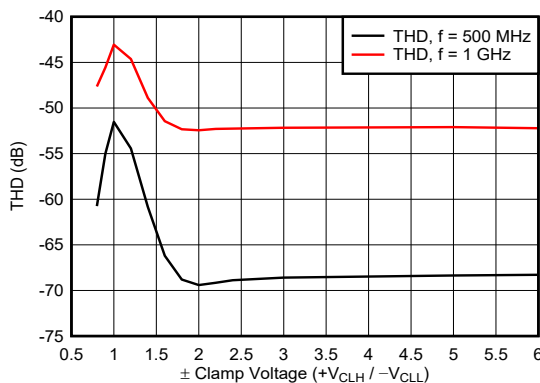

Figure 8-4. THD vs V_{CLH} / V_{CLL} for $V_{OUT} = 1$ V_{PP}
- The output THD of the BUF802 degrades when V_{CLH} and V_{CLL} are set close to the expected V_{OUT} peak value. To prevent signal degradation, maintain at least a 1.5 V difference between the expected peak output voltage and the clamp voltage applied at the CLH and CLL pins. Figure 8-4 shows the relation between the absolute clamp voltage value and THD for a 1 V_{PP} output.